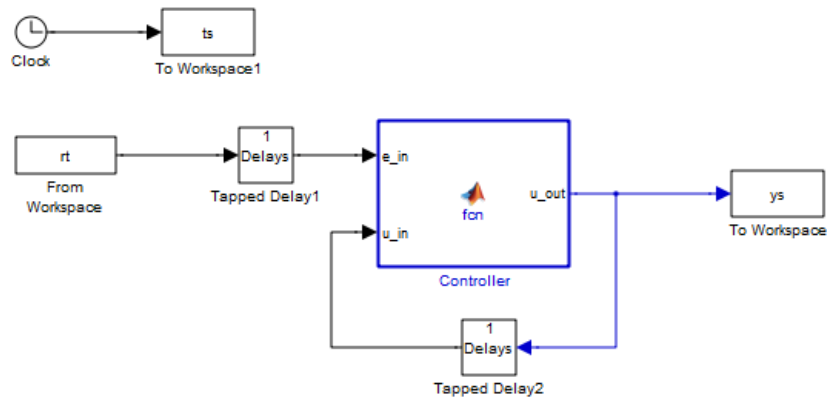

Figure 3. Initial configuration of **closedloop_DE.mdl** used for debugging.
c) We are going to first implement the controller by cheating as much as we can. When we are done with this step we want **closedloop_DE.mdl** to look like Figure 3. You should note two things about this figure, compared with **openloop_DE.mdl**: